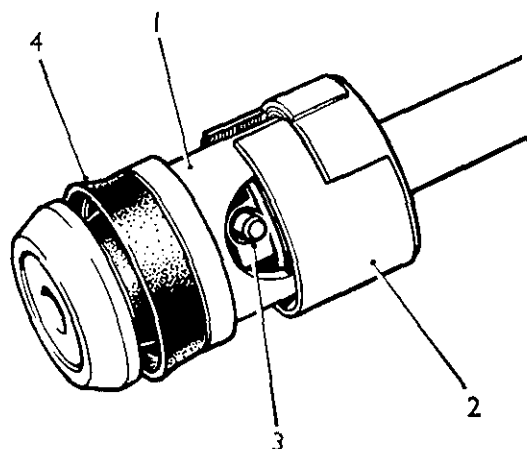

Fig. Mb.4
- (13) Pull the servo push-rod and the piston assembly attached to it from the slave cylinder bore. Slide off the plastic bearing, rubber cup and plastic spacer, noting their relative positions for refitting.
- (14) Prise off the rubber seal from the head of the slave piston. Open the retaining clip with a small screwdriver to expose the connecting pin, which may then be driven out to separate the piston from the rod (see Fig. Mb.4).